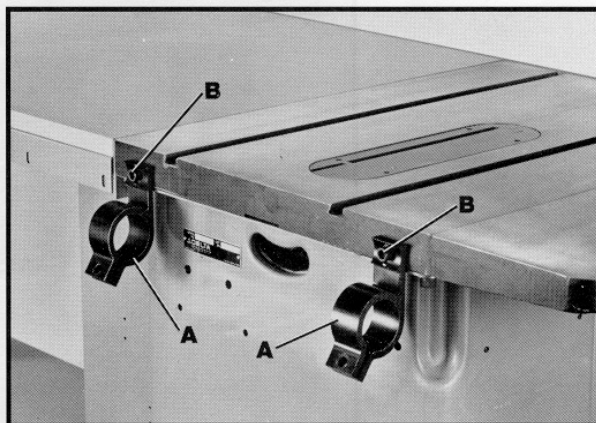

Fig. 2
4. Assemble the two support arm holders (A) Fig. 2, to the two threaded holes at the rear of the saw table using the two 1-1/4 inch-long socket head cap screws (B). **DO NOT COMPLETELY TIGHTEN THE TWO SCREWS (B) AT THIS TIME.** NOTE: Thru holes are supplied at the rear of the saw table for the 10" Contractors Saw and 10" Tilting Arbor Saw. Assemble two support arms (A) with two 1-1/4 inch-long socket head cap screws (B), lock-washers and hex nuts.